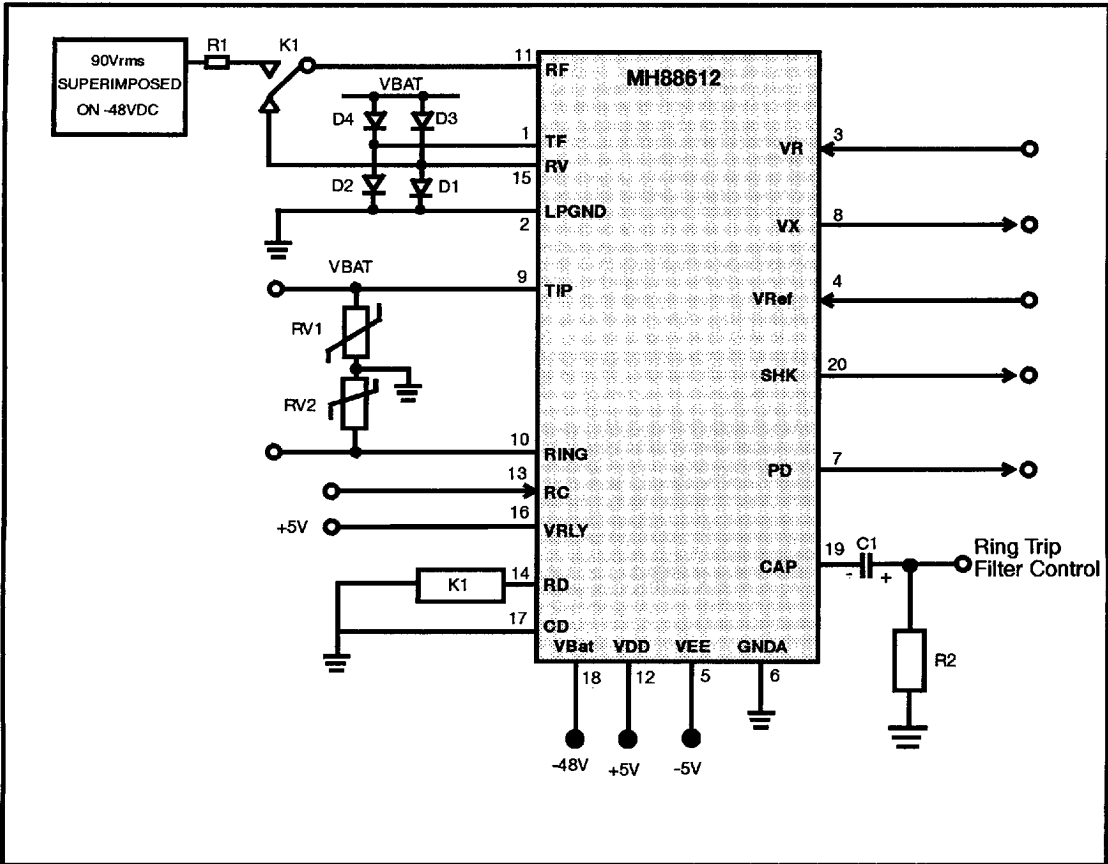

Figure 3 - Application Circuit
In Figure 3 a ringing signal (e.g.90 Vrms=+/48Vdc) is applied to the line by disconnecting pin 15 (RV) from pin 11(RF), and connecting the ringing voltage at pin 11 (RF) by use of the relay K1.